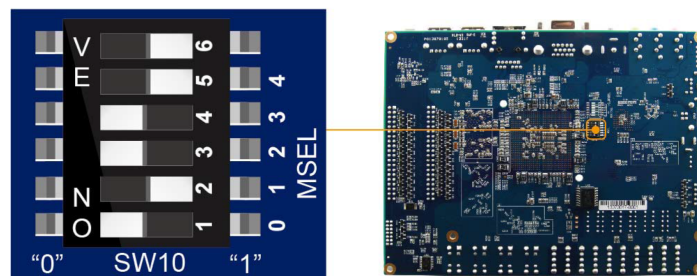

Figure 2: Correct switch setup for JTAG programming.
2. You will need to verify the device is set up for JTAG programming. To do this, look on the bottom of the FPGA for a set of switches. You will set them to **110010** from the highest to lowest order, as shown in Figure 2.